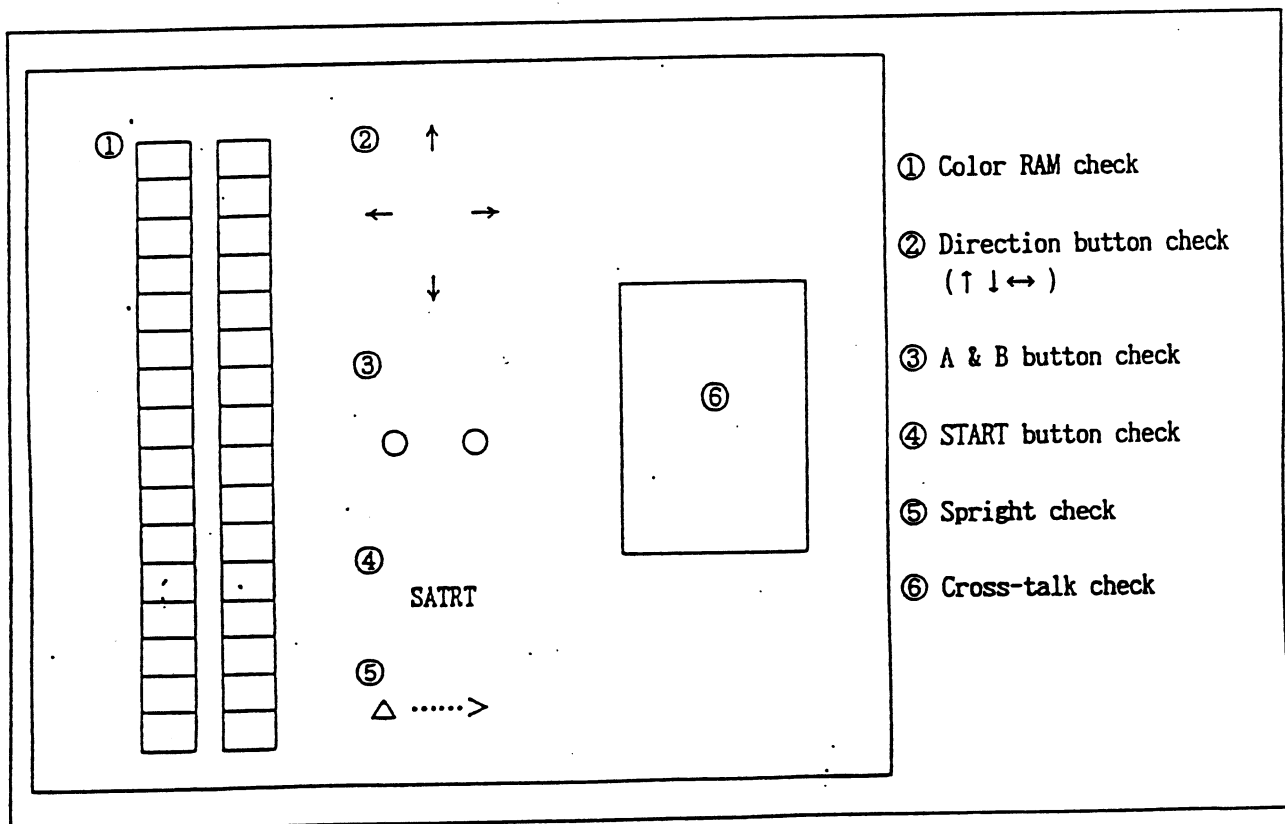

Fig. 1 Check sreen
(I) Check the following 3 items in the state of black screen until the check screen (Fig.1) appears after turning on the power. If an error occurs, the error messages as shown in Table 1 appear in white characters on the red background. At this point, terminate the checking and stop further checking work.
- ① Scratch RAM R/W check
- ② V_RAM R/W check
- ③ Communication port check (Parallel & Serial)
(II) If the above check (I) is O.K., check the following 5 items as the check screen (Fig.1) appears.
- ④